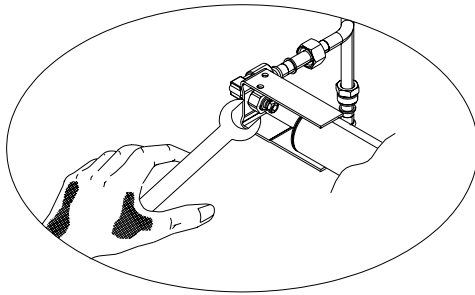

Fig 5 Replacing the injectors.
- Replace the injector with the one suitable for the gas to be used as listed in the table page 20. It is recommended that the appropriate thread sealant be used, always check for gas soundness after assembly (Fig. 5).